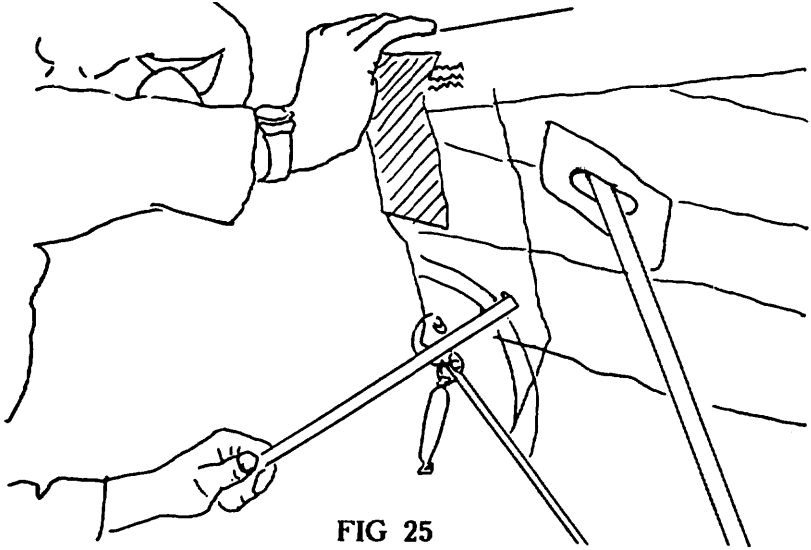

FIG 25
18) Insert the number one battens. On older HP's they will be inserted between the top and bottom surface through the gap in the seam, while on newer HP's they will be inserted through a hole in the bottom surface. (Fig 25)